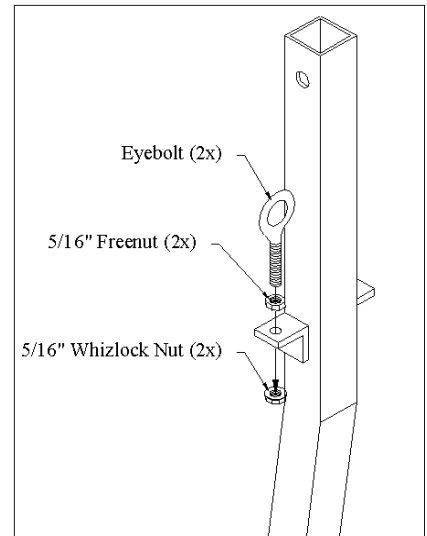

Fig. 3
3. Attach eyebolts (18) to vertical upright upper brackets, trapping the brackets between 5/16" hexnut and 5/16" whizlock nuts. Rotate eyebolts so eyelets face from front to back. Fig. 3